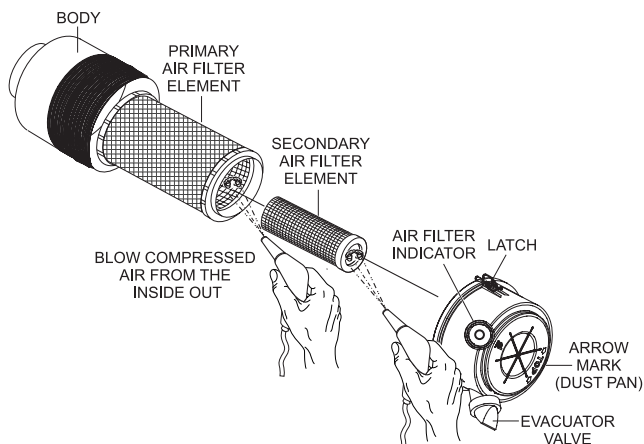

Figure 51. Engine Air Cleaner
This Isuzu diesel engine is equipped with a replaceable, high-density, paper air cleaner element (Figure 51). The air cleaner is also equipped with an inner (secondary) element that is used as a backup filter should the primary element become damaged. Check the air cleaner daily or before starting the engine. Replace the air cleaner as needed.
1. Release the latches that secure the cover to the air cleaner body (Figure 51).
2. Remove the **air cleaner cover** (Figure 51) and set it aside.
3. Remove both the primary and secondary air cleaner elements (Figure 51).
5. To clean the **primary element** (paper air filter) as shown in Figure 51, tap the filter element several times on a hard surface to remove dirt, or blow compressed air, not to exceed 30 psi (207 kPa, 2.1 kgf/cm²), through the filter element from the inside out.
8. Clean the inside of the **air cleaner body** (Figure 51).